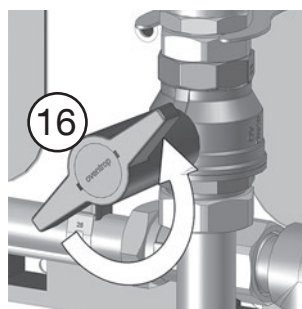

Fig. 5.9: Open the isolating ball valve in the supply of the storage cylinder circuit
13. **Open the isolating ball valve (16).** Heating water enters the station (Fig. 5.9).